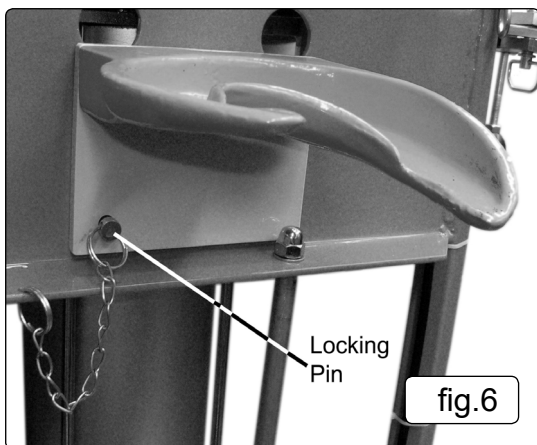

fig.6
- 4.2.10. Hang two of the yokes not being used to the sides of the frame and locate the third yoke onto the compressor using the locking pin to hold it in position (fig.6).
- 6.1.1. With the strut and spring removed from the vehicle, select the most suitably sized yoke or the strut clamp (parts K12, K13, 24) according to the size of the spring and fit it onto the compressor using the locking pin to hold it in position (fig.6).